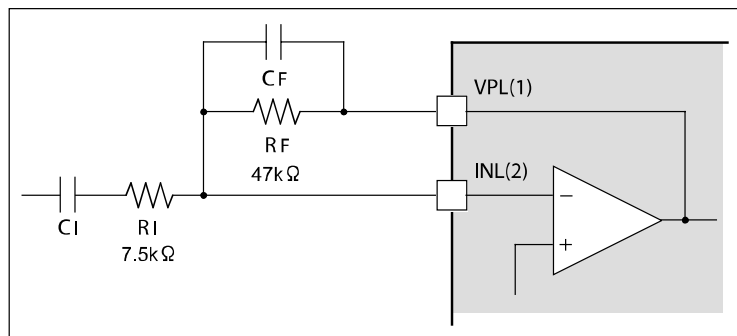

Figure 1: First stage inversion operational amplifier input circuit example
In "Application circuit", input resistor (RI)=7.5kΩ and feedback resistor (RF)=47kΩ and the gain of the first stage inversion operational amplifier is set at 16 dB, as described in "Figure 1: First stage inversion operational amplifier input circuit example". Therefore, the total gain at this case is given as described below.
In the "Application circuit", low pass filter capacitor (CF) is added to limit the band width of the input signal, as described in "Figure 1: First stage inversion operational amplifier input circuit example", whereby the value can be adjusted as necessary. To limit the input DC current, DC cutting capacitor (CI) is added, whereby this capacitor and input resistor (RI) constitute a high pass filter.